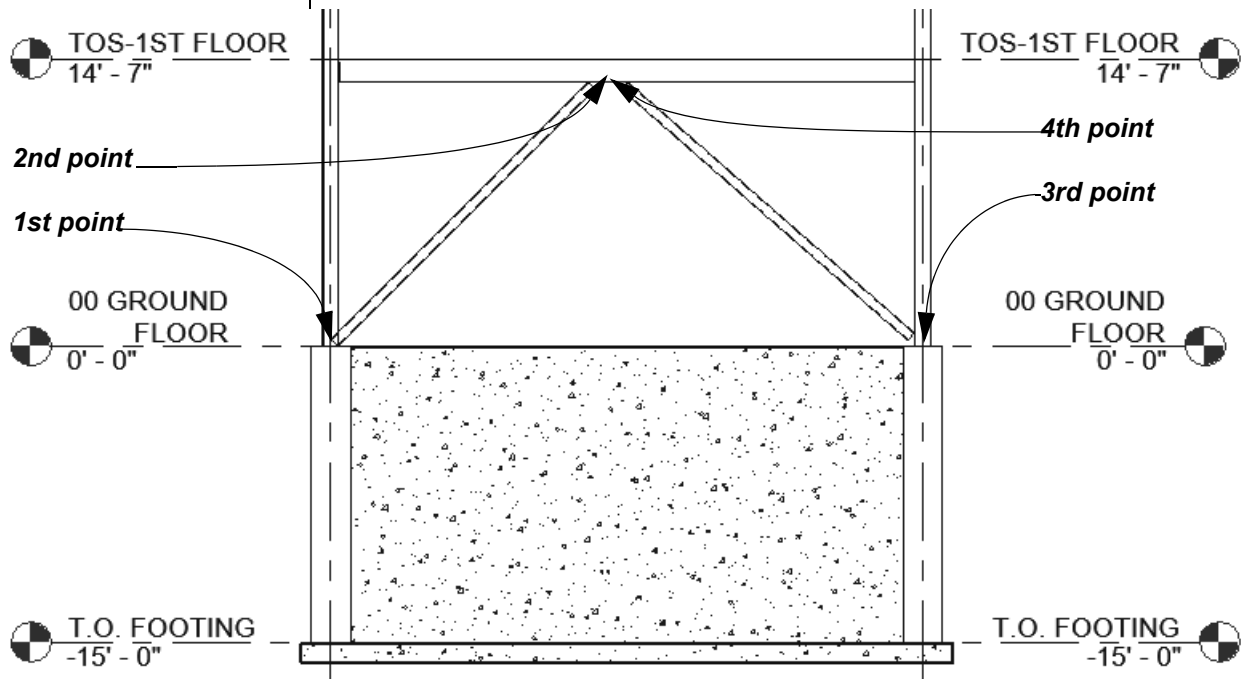

Figure 7–22
3. Draw from the centerline of the base of the column on the left to the midpoint of the beam located on the 1st Floor, as shown in Figure 7–22. Repeat this step on the other side.